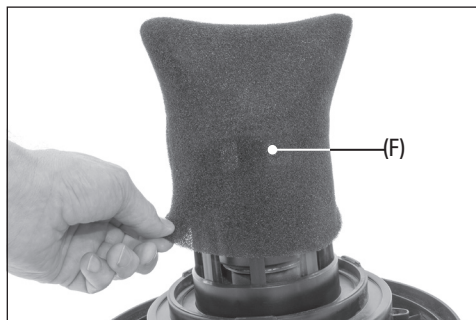

Fig. 7
3. Fit the foam filter (F) by carefully sliding the foam sleeve completely over the filter/float cage. (Fig. 7).